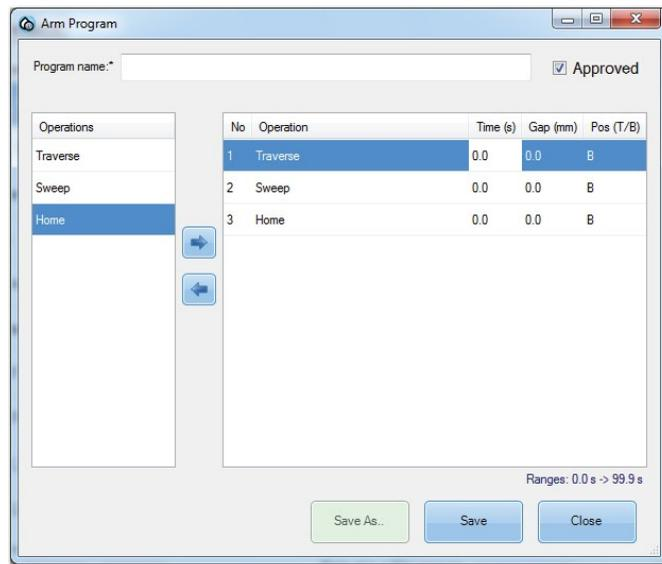

FIGURE 3-5: Configuring arm operations
6. Under Operations, highlight a desired option and add it to the right pane by clicking the right arrow. Repeat this step to add the other operations as needed. See Figure 3-5.